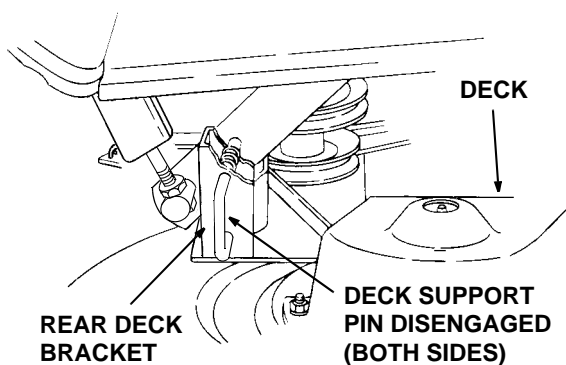

Figure 45
6. Pull the deck support pins outward, turn downward and release so both spring-loaded pins are held in the disengaged position against the outer surface of the deck brackets (See Figure 45).